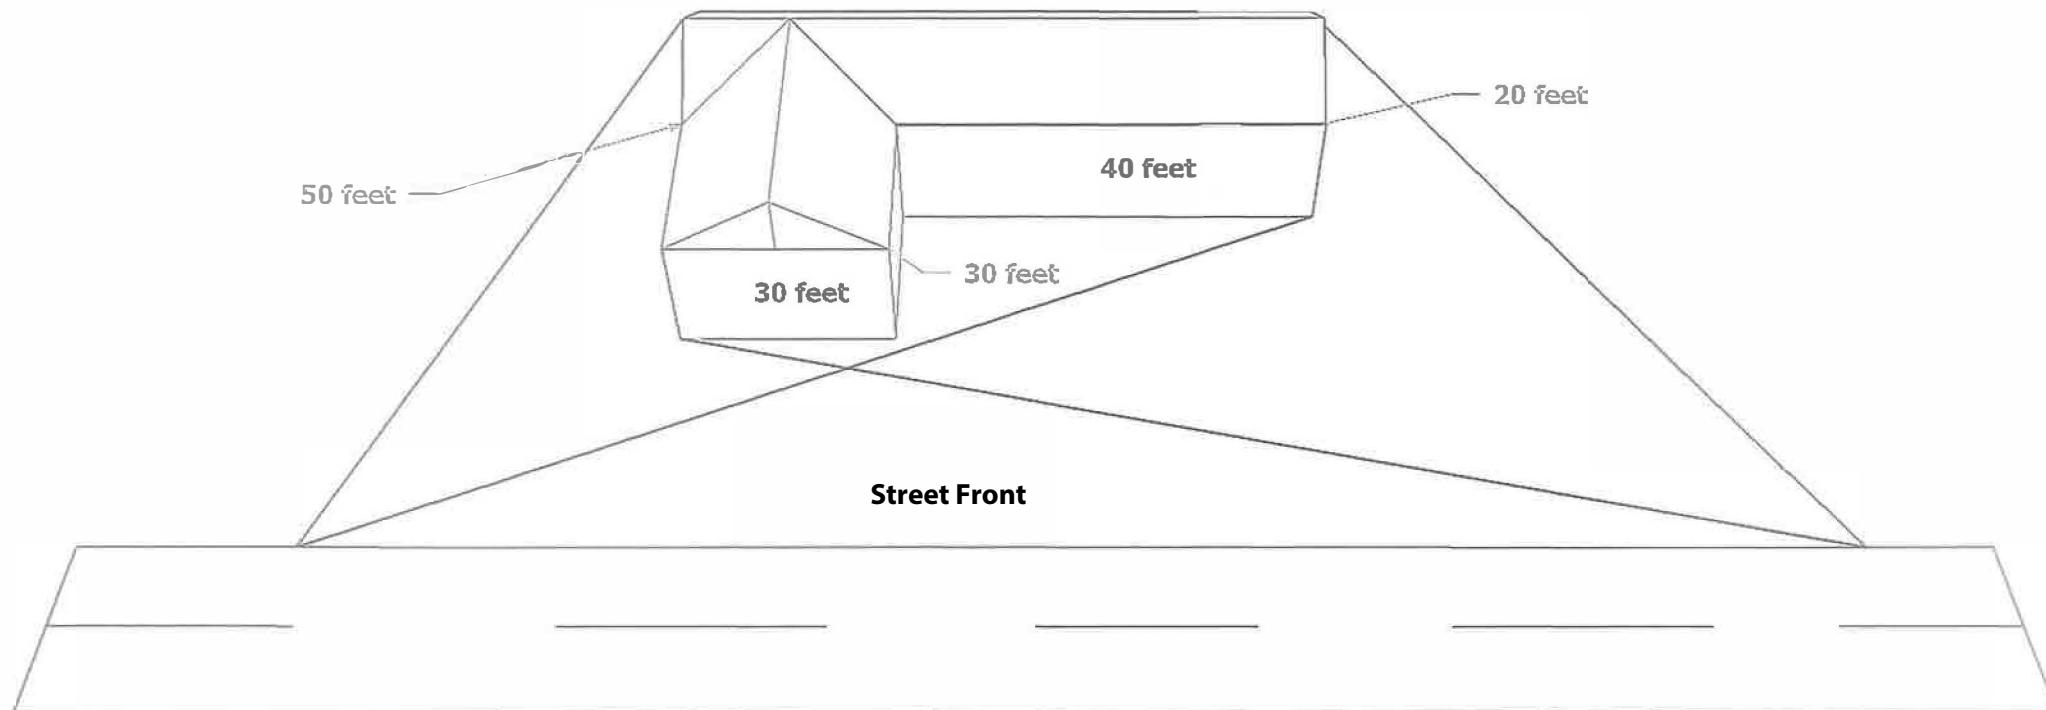

Figure 2
2. **F** = Length of the longest horizontal straight section of the exterior facade visible from the street. (see Figure 2) $F = \underline{\hspace{2cm}}$ ft.
- a. There must be an intervening physical separation of space or wall which makes horizontal separation of at least three (3) feet (see Figure 2).
- b. The intervening physical separation of the space and wall must maintain that separation for at least one (1) foot vertically.
- c. The total perimeter length of the intervening space or wall section must be at least five feet (i.e. section a. above must total five (5) feet) (see Figure 2).